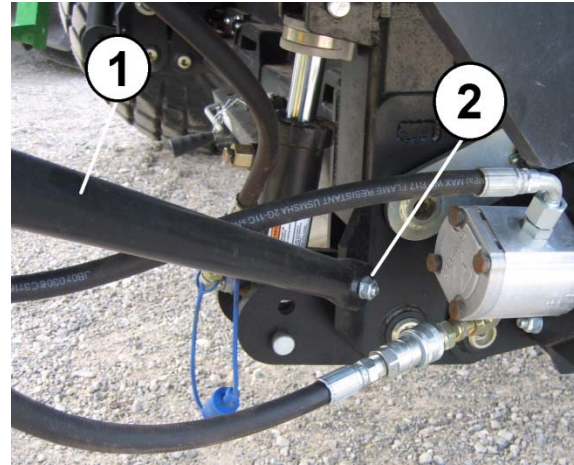

Figure 14. Support Arm Installation
Install RC0470 Support Arm on the RH drop frame and rear support bracket using two (2) M12 x 40 bolts, four (4) M12 Washers and two (2) M12 Nuts as shown in Figure 14. DO NOT tighten hardware completely.